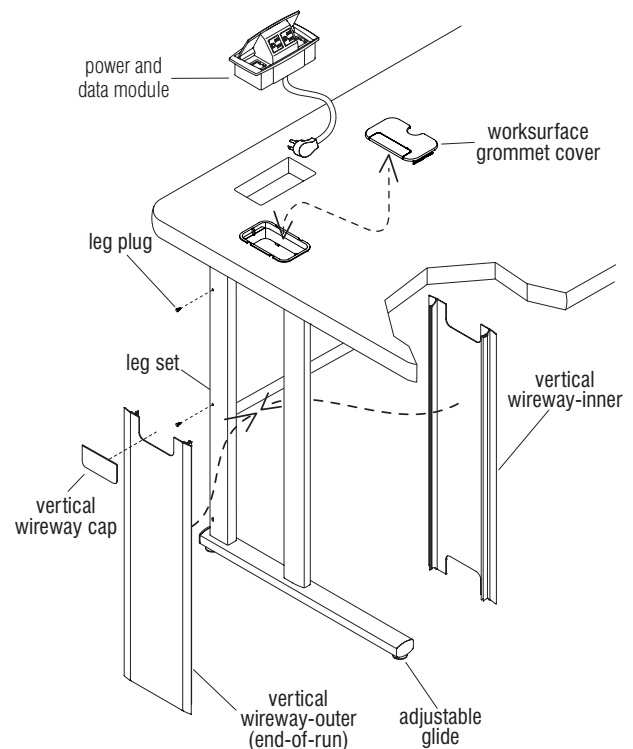

Figure 3
8. Stand worksurface assembly right side up and install two leg plugs into the exposed holes at the outside of each leg set as illustrated (Figure 3).
the leg sets must be tightened up against the bottom of the leg to secure the adjustable glides (Figure 3). Tighten screws that gang worksurfaces at this time.
9. Vertical wireways fasten into each other from each side of the leg set opening and must be oriented correctly to press together. Begin by first positioning an "outer vertical wireway" (single cut-out), to the outside of the leg set as illustrated, with cut-out closest to worksurface. Next position the inner wireway cover (two cut-outs) in the correct orientation at the inside of the leg set and press it into the outer wireway (Figures 2 & 3). For end-of run tables, press a vertical wireway cap into the upper, outside cut-out in each vertical wireway where no table-to-table wireway is installed (Figure 3).
12. Press worksurface grommets into wireway holes in worksurface top (Figure 3). Route the power and data module cord through the power and data module hole in the worksurface. Snap the power and data module into the module hole (Figure 3). From under the worksurface, with the power/data door opened, plug the power cord into the duplex receptacle on the 10-wire harness. Check for proper operation of the power and data module. To open module push down on the module and it will pop-up. To close, press downward and it will snap closed.